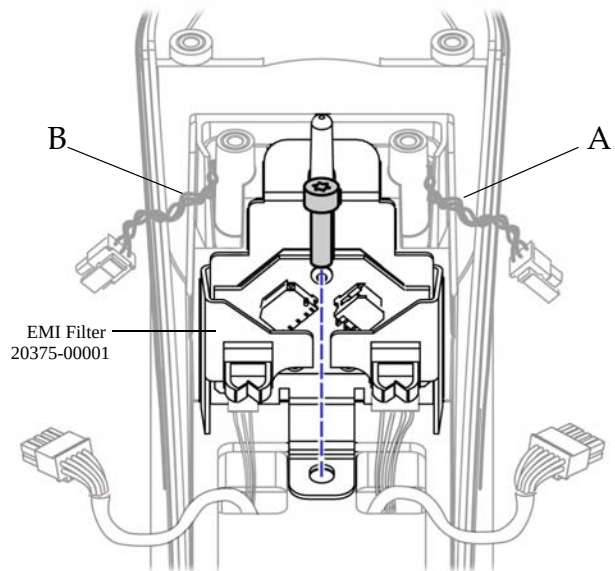

Figure 9-14: Remove or Install EMI Filter Screw
chassis and secures EMI filter to bottom of console housing. See Figure 9-14.
4. Seat EMI filter in place over locator pin. Thread (1) SHCS, M6 x 1 x 30, SEMS, 6-lobe fastener (20539-00001) through EMI filter and base plate into chassis cover. See Figure 9-14.